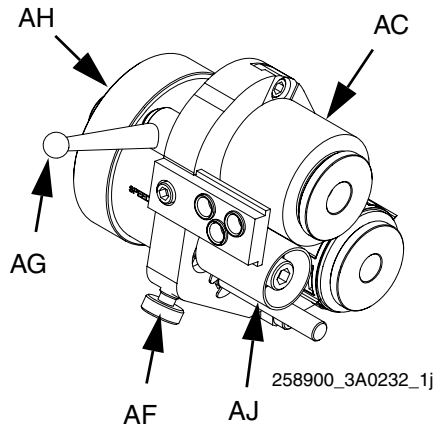

FIG. 11
3. With the trigger lock engaged, rotate the cutter motor (AJ): clockwise to decrease speed, counter-clockwise to increase speed. See FIG. 11.
2. Disengage the tension lockdown (AG) by pushing towards the front of the gun.
3. Turn the tension knob (AF) on the cutter: counter-clockwise to increase tension, clockwise to decrease tension. See FIG. 11.